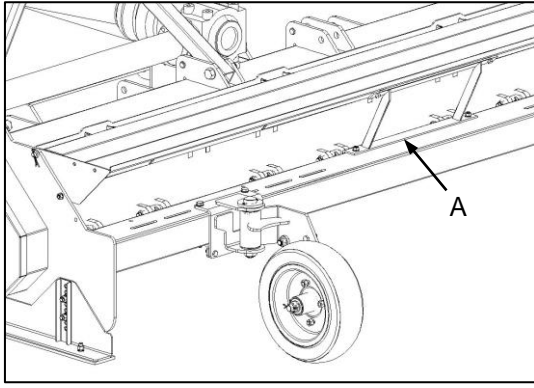

Fig. 1
#### ➤ Discharge mode (Fig. 1)
- ✔ Discharge chute in the open position (Fig. 1), allowing material to be discharged to the rear immediately after having been cut.
- ⊖ When using the implement in this mode, the discharge chute support bracket (Fig. 1-A) MUST be in place. Failure to observe this requirement will result in structural and mechanical failure not covered under warranty.
#### ➤ Ontladingmodus (Fig. 1)
- ✔ Afvoergeut in die oop posisie (Fig. 1), sodat gesnyde materiaal onmiddellik na agter ontlaai kan word.
- ⊖ Wanneer die implement in hierdie modus gebruik word, MOET die afvoergeutsteunstuk (Fig. 1-A) in posisie wees. Versuim om aan hierdie vereiste te voldoen sal tot strukturele en meganiese onklaarraking lei wat nie onder waarborg gedek word nie.
- ✔ Install the central chute support bracket (Fig. 1-A).
- ✔ Installeer die middelste geutsteunstuk (Fig. 1-A).